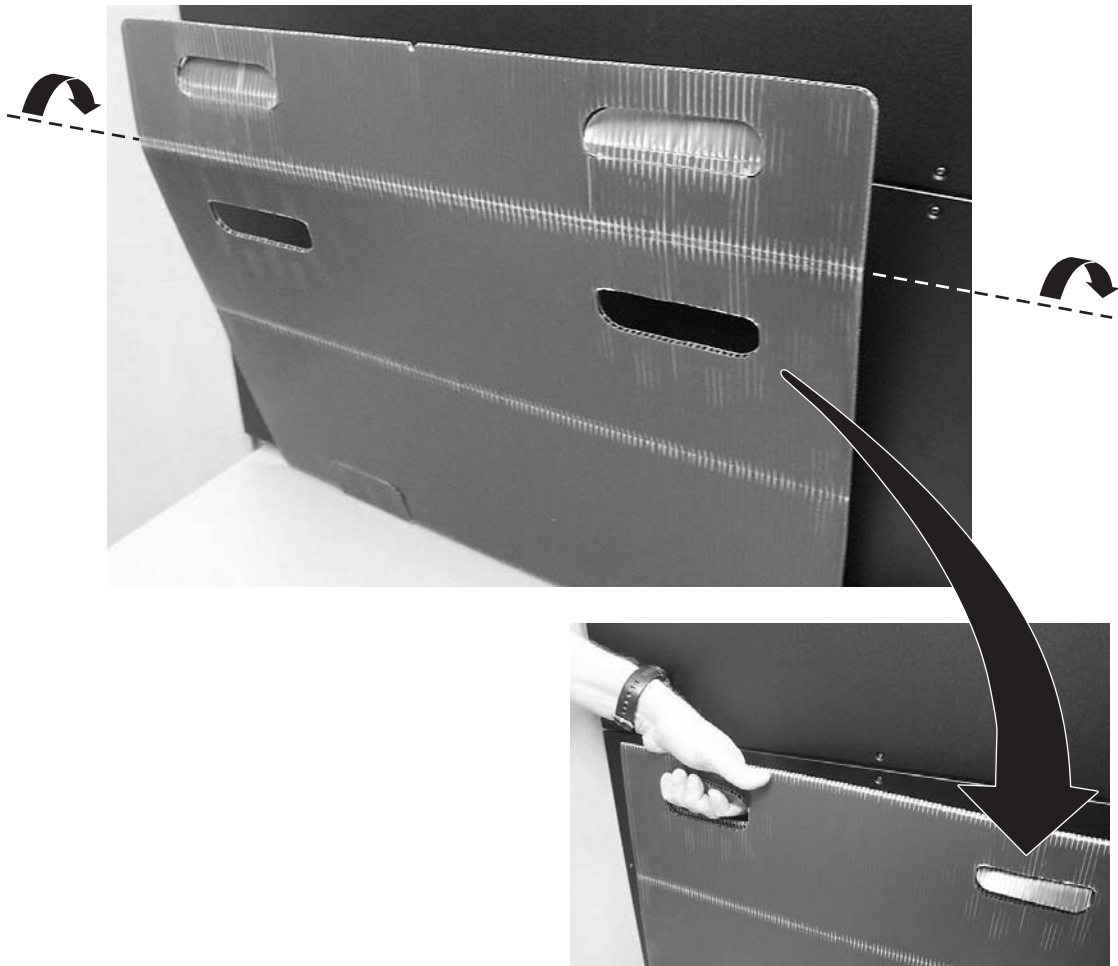

Figure 3-18. Sling handles folded properly
3. With a person on each side of the module, lift the module with the sling provided (see Figure 3-18 on page 3-20).